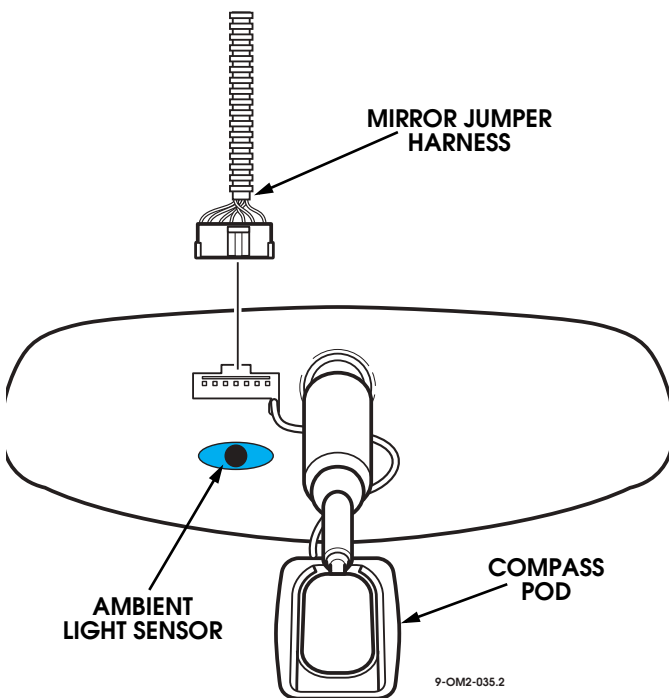

Figure 2-126: Auto-Dimming Mirror Jumper Harness Connection
1. Disconnect mirror jumper harness from the rear of the mirror assembly (See Figure 2-126).